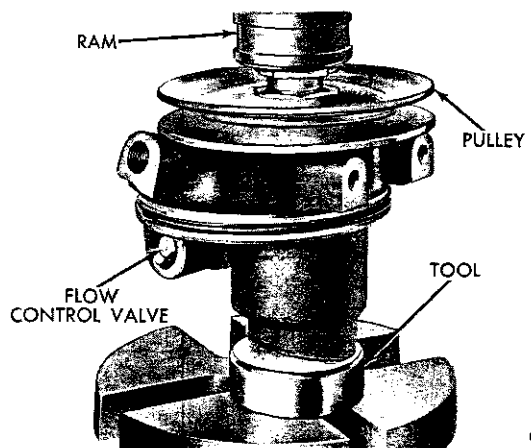

Fig. 55—Installing the Pump Pulley
(8) Support the pump body on the holding fixture, Tool C-3643, with the tool dowel pins in the pump bolt holes so that the pressure will be absorbed by the lower end of the pump shaft (Fig. 55).
- (8) Install pulley, (Fig. 55).
- (9) Install a new pump body "O" ring, new reservoir gasket and reservoir and brackets.